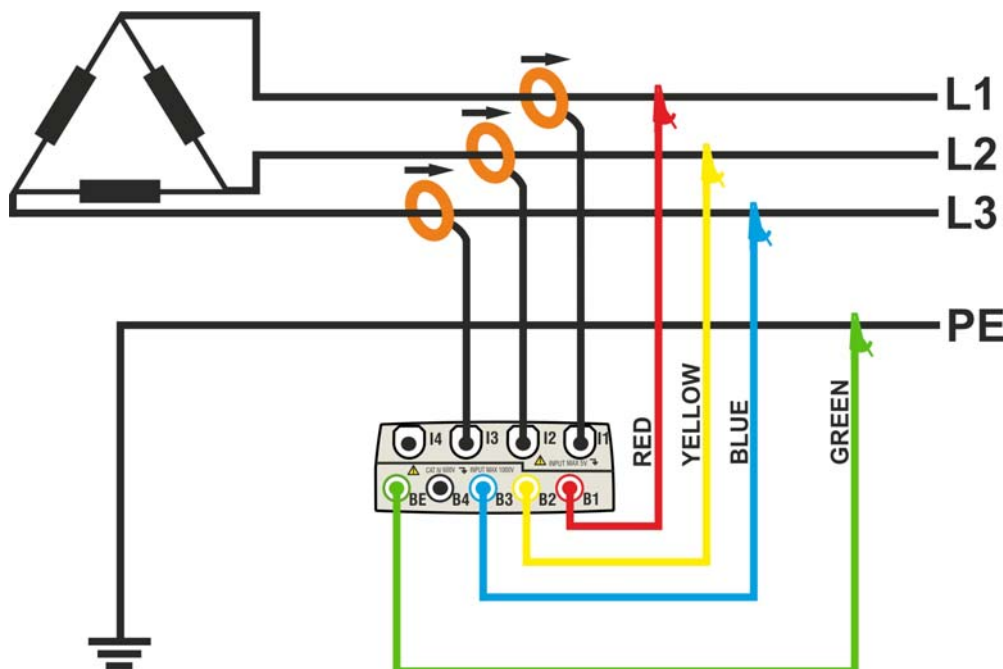

Fig. 121: Meter connection in a 3-phase 3-wire ARON system – ENG\_UK type
2. Connect voltage test leads on Phases L1, L2, L3, and Ground cables considering the colours as shown in Fig. 121. **Verify the result “123” at display relative to a correct phase sequence indication** (see § 5.2.1) and perform the corrections if necessary.
3. Connect the transducer current clamps on Phase L1, L2, L3 cables as shown in Fig. 121 respecting the clamp's arrow direction indicating the current standard sequence from generator to load. **On Real Time Values' section screens (selecting a 3 wire system preliminarily) always verify the positive value of Active Power and the power factor relative to load which should be normally inductive** before starting a recording. Reverse the clamp by 180 degrees on cables in case of negative readings.